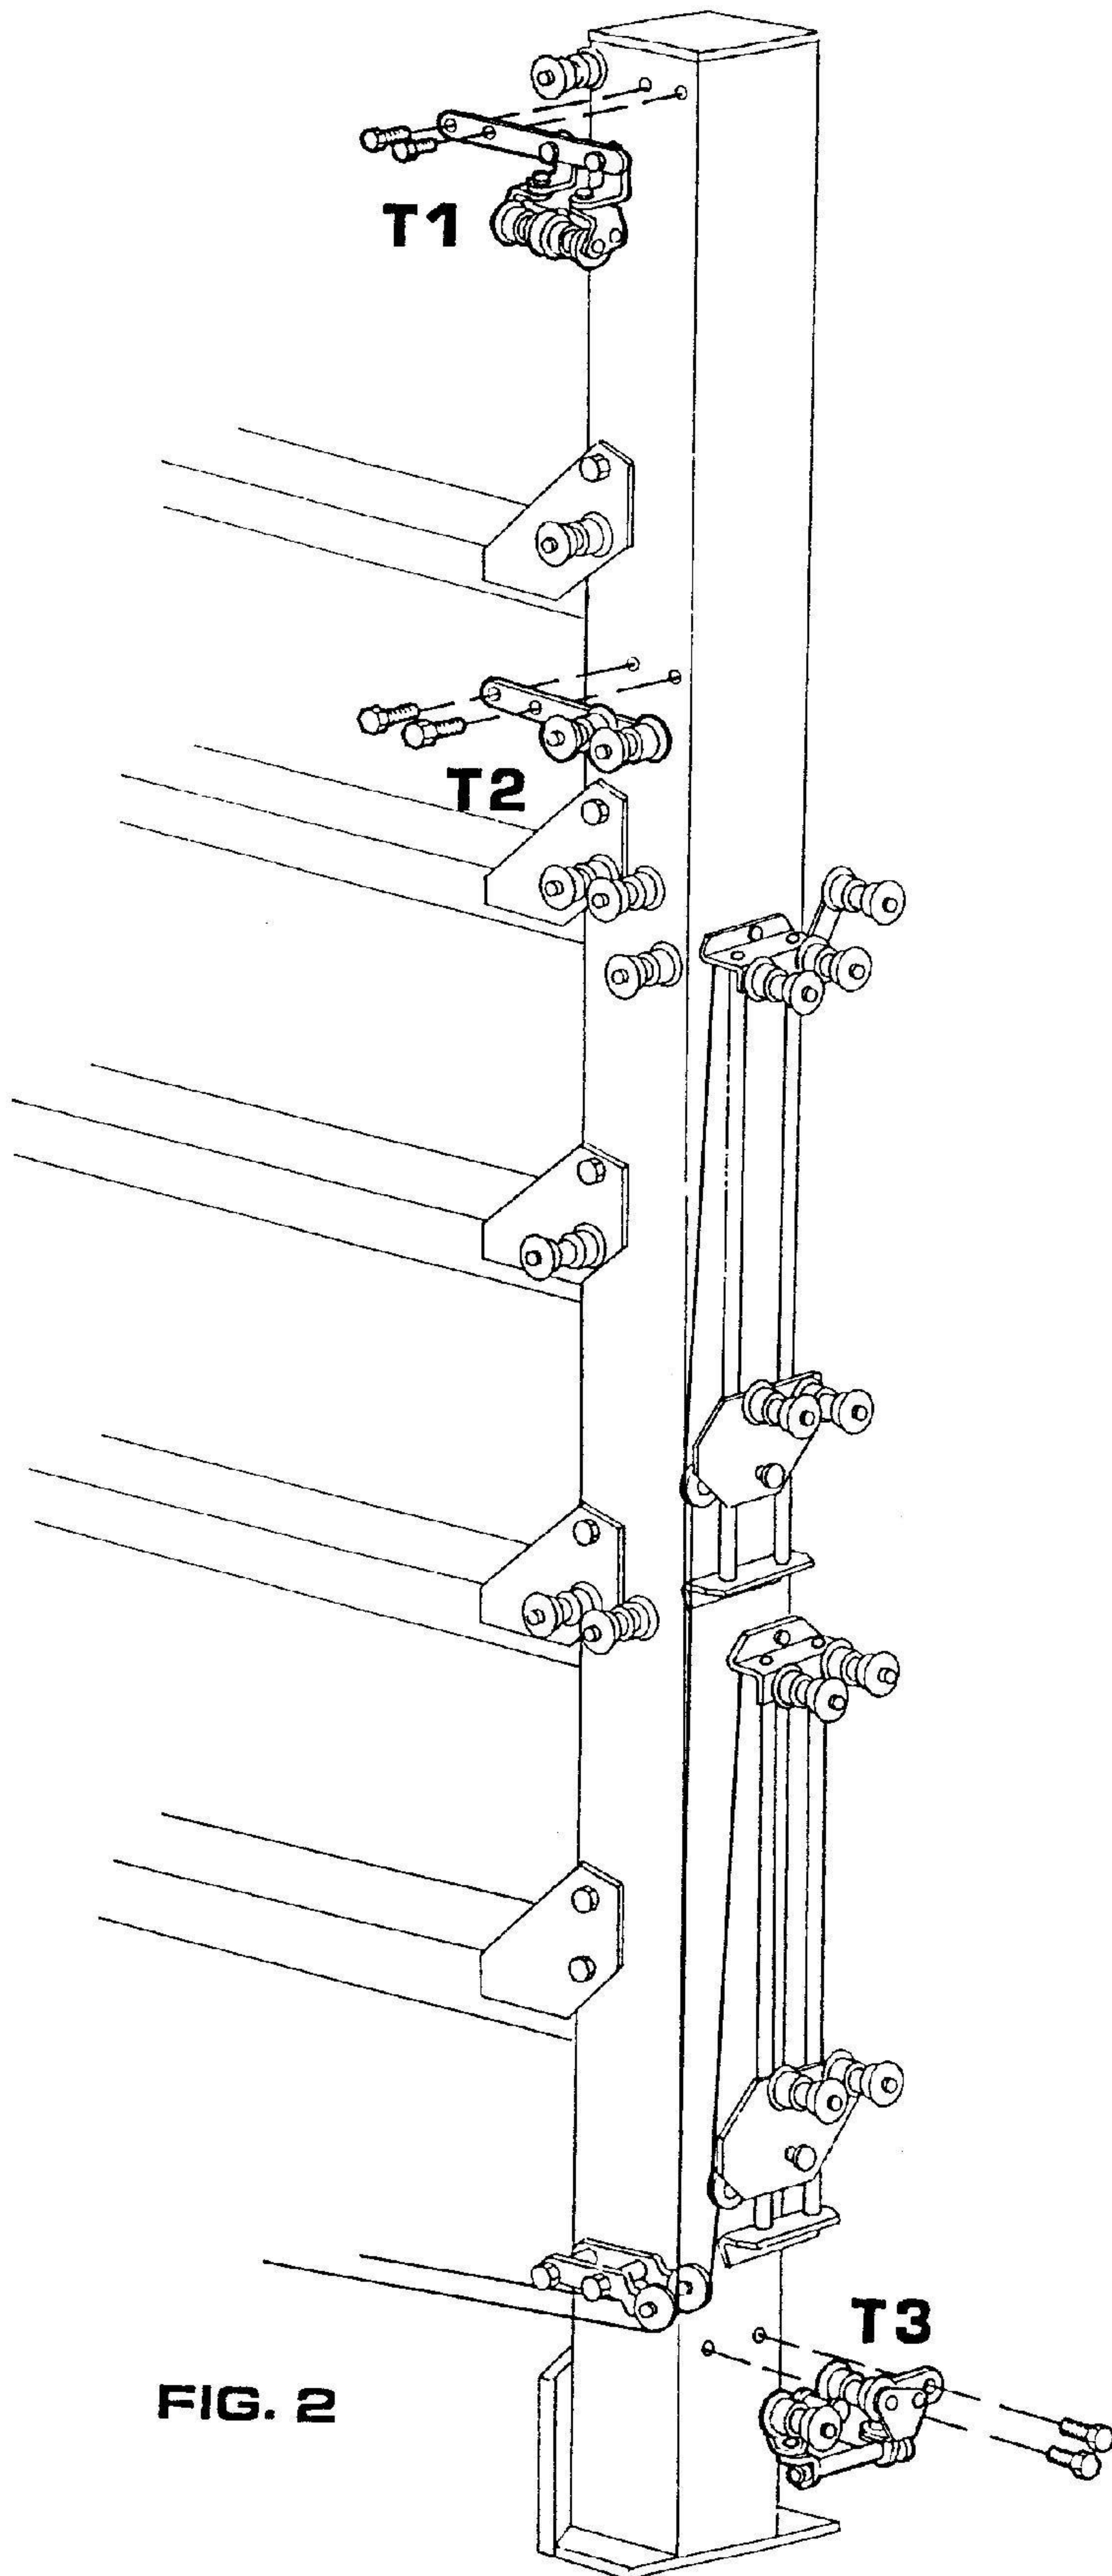

FIG. 2
- 8.) Three pulley bracket assemblies are provided in the 5-Deck control plate box. They are labeled T1, T2, and T3. Attach these assemblies to the appropriately marked spot on the column. See Figure 2 on Page 6.